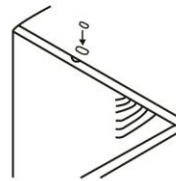

Fig.6
- Add two foam inserts to the holes where the shipping screws were removed at the top of the unit. (Figure 6)